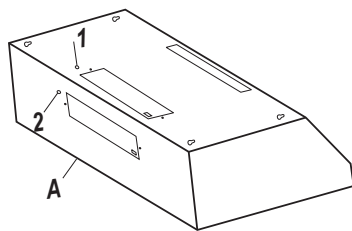

Fig. 13
- Choose the appropriate electrical knock-out hole to remove for your installation type. Use the top hole (1) if your electrical supply is in the cabinet and the back hole (2) if your electrical supply is on the wall below the cabinet (refer to Fig. 13).